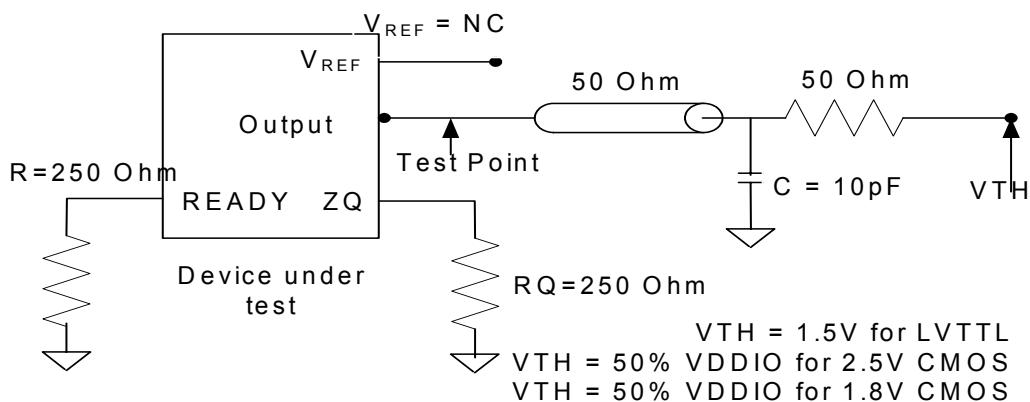

Figure 6. Output Test Load for LVTTL/CMOS
31. Parameters specified with the load capacitance in *Figure 6* and *Figure 7*.